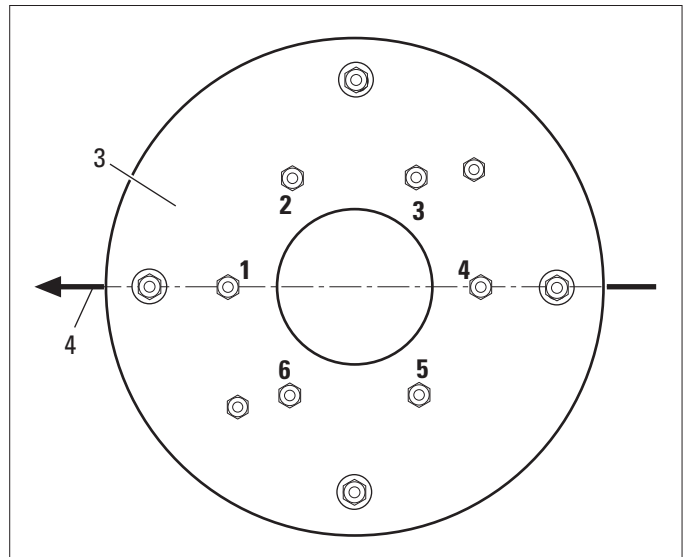

Fig. 4
In order to facilitate mounting of the Telescope Mount, the fastening screws on the bottom of the ceiling plate flange (3) should be numbered. The number 1 must point in the direction of the main axis (4), the number 4 lies directly opposite (Fig. 4).